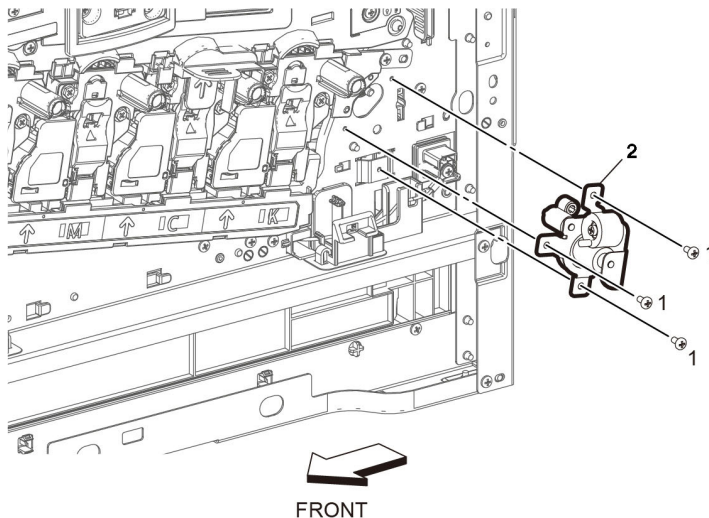

Figure 1 Waste drive assembly removal
6. Remove three screws (1), then remove the waste drive assembly (2), Figure 1>